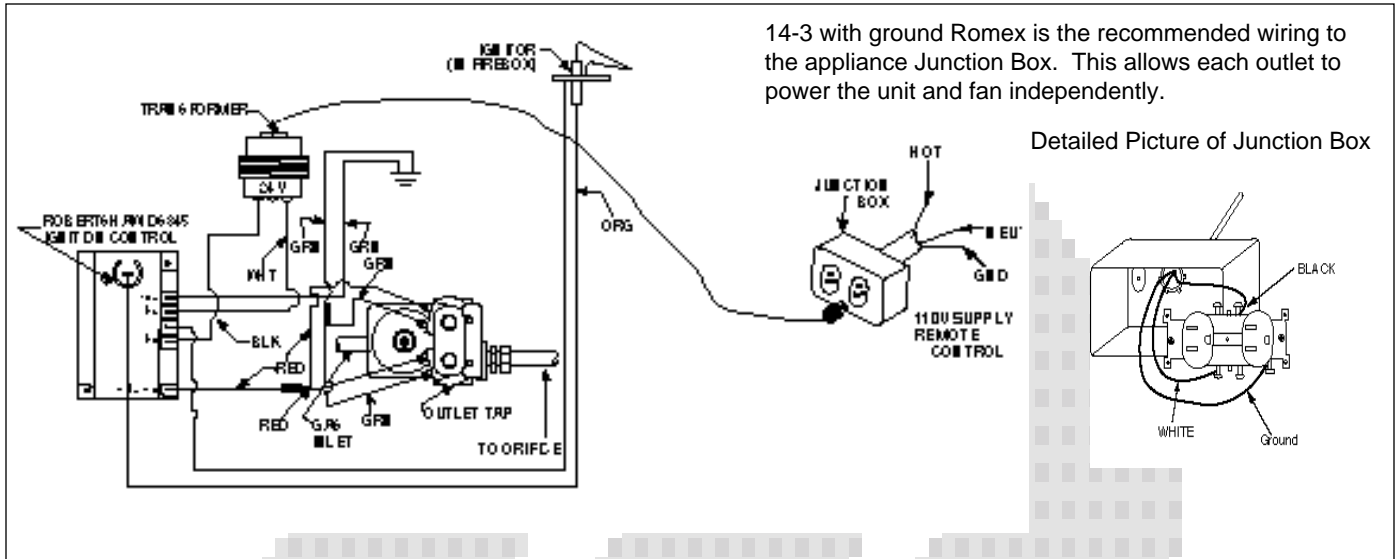

Figure 10 - Electronic Ignition Wiring Diagram
1. Appliance Requirements. This appliance requires a 110VAC supply from a wall switch to the appliance junction box for operation. A wiring diagram is shown in Figure 10.